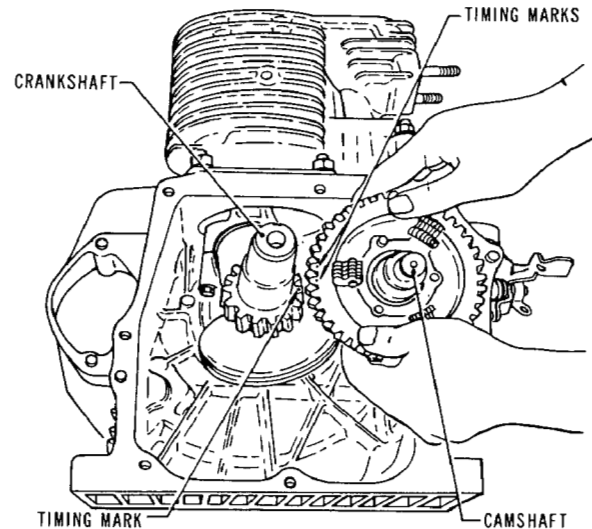

Fig. 6-3-9
- 1) To prevent tappets from falling out and being damaged when camshaft is removed, turn crankcase over on its side as shown in Fig. 6-3-9. Push tappets inward to clear cam lobes, and remove camshaft.
NOTE: Mount camshaft so that the marked tooth on crankshaft gear is between the two marked teeth of the camshaft gear. (Fig. 6-3-9)